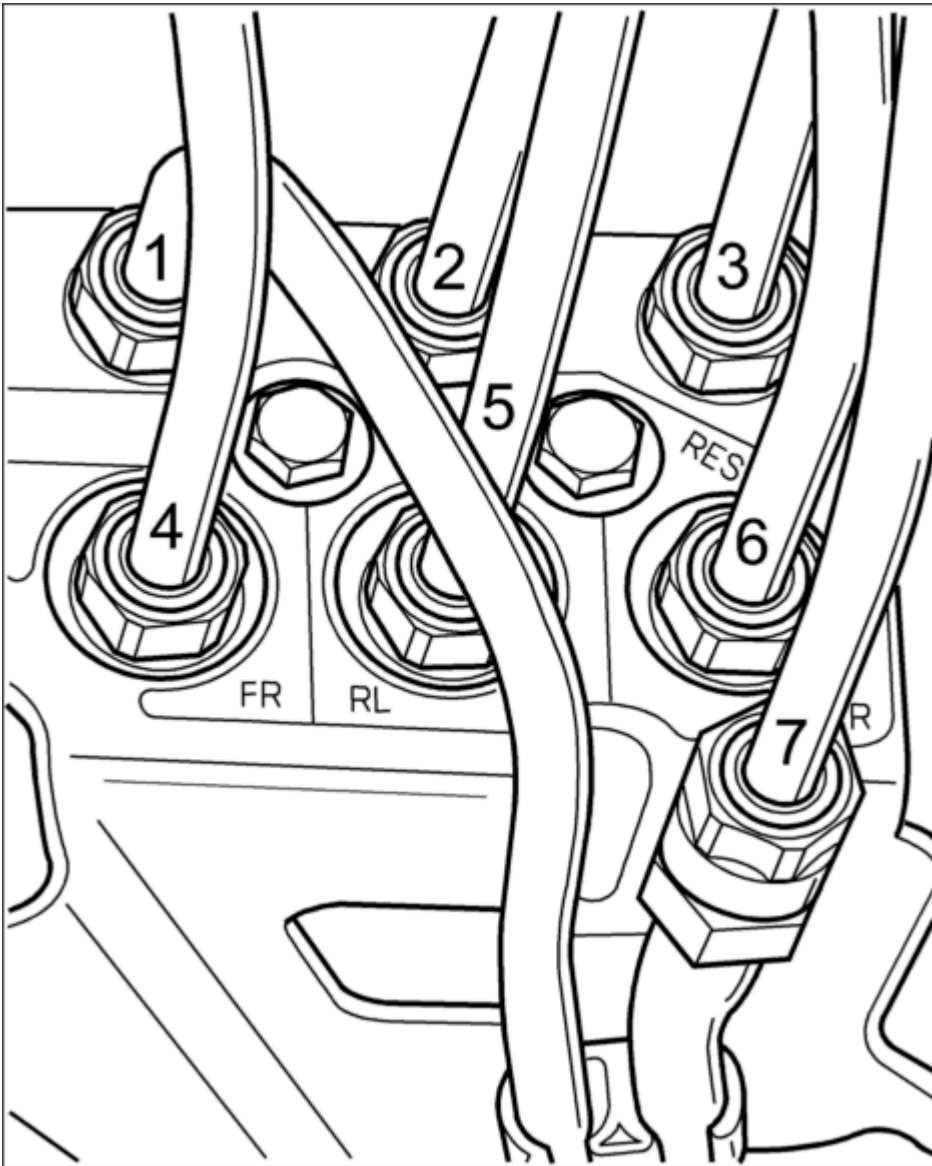

Fig. 57: Air lines for valve block
3. Fit the --> *Air lines for valve block* air lines to the valve block. See **Fig. 57**.